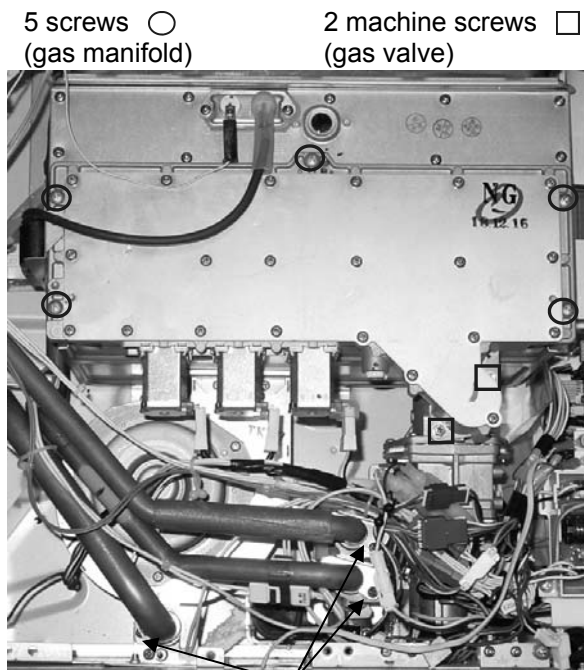

Figure 2
7. Remove 3 screws and brackets securing the water line connections. (Figure 2)
8. Remove the 5 screws that attach the gas manifold to the combustion chamber (part of the heat exchanger assembly). (Figure 2)
9. Remove the 2 screws that attach the gas manifold to the gas valve. These screws are machine screws and must be used at these locations. (Figure 2)